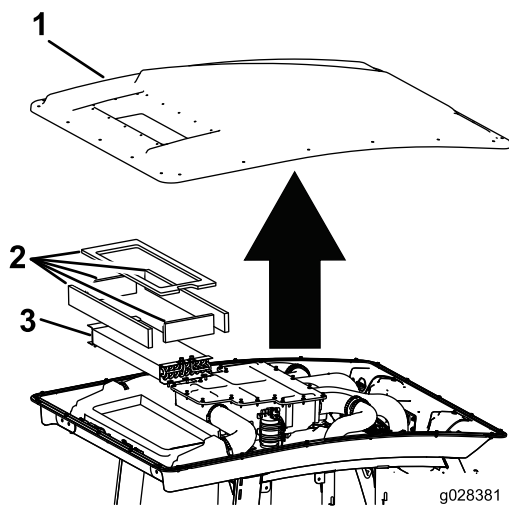

Figure 115
3. Remove the cabin roof of the cab by removing the 22 bolts that secure the roof (Figure 115).
4. Remove the air filters (Figure 115).
5. Remove and clean the air conditioning coils (Figure 115).